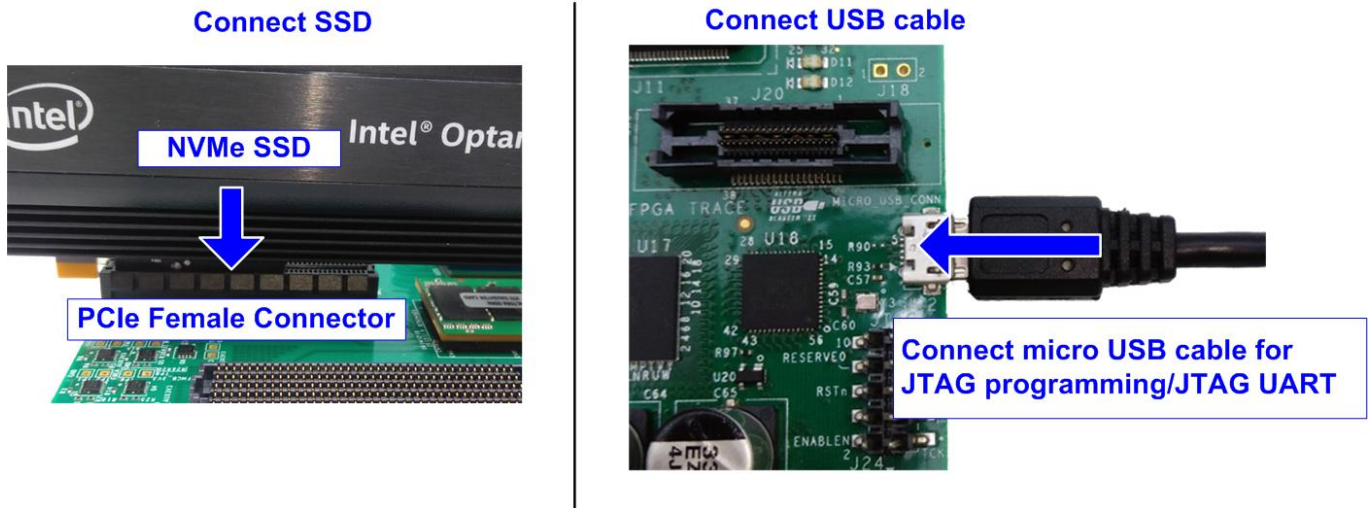

Figure 2-7 NVMe PCIe SSD connection on FPGA board
- 2) Connect NVMe SSD to PCIe connector on FPGA board, as shown in Figure 2-7.